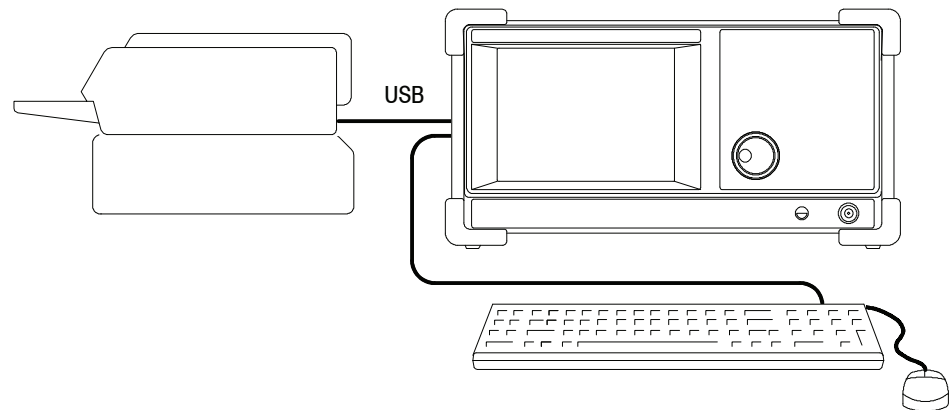

Figure 2-4: Connecting USB devices
- USB connectors (two ports).** Connect USB devices such as a mouse, keyboard, and printer. You can connect the devices any time, with no setup (plug & play), to either or both ports. You can also connect a mouse to a USB port on a keyboard (see Figure 2-4).